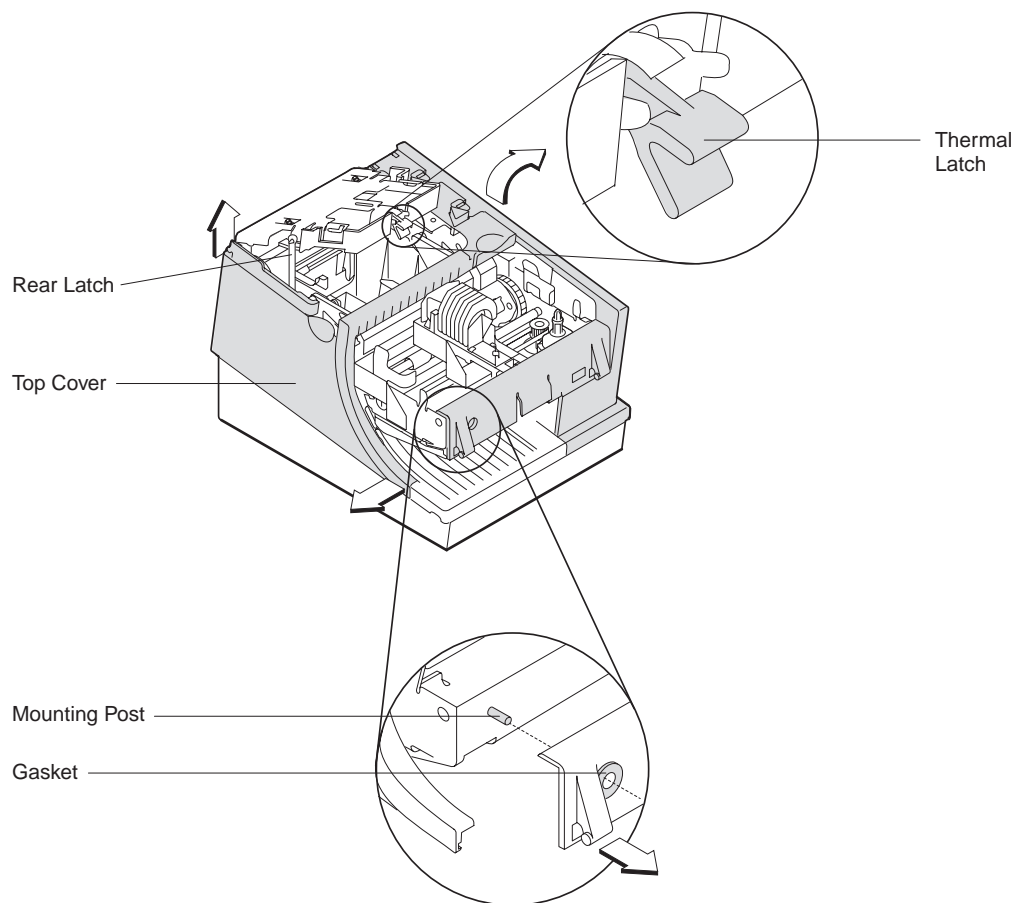

Figure 6. Removing the Top Cover
6. See Figure 6. Remove the **top cover**. Pull the front of the top cover forward and off the mounting post.
9. Pull the bottom left side of top cover locking latch outward and upward until the side is clear of the track guide. See Figure 6. Pull the latch forward while pulling up on the rear of the top cover until the latch clears. Lift the top cover clear.